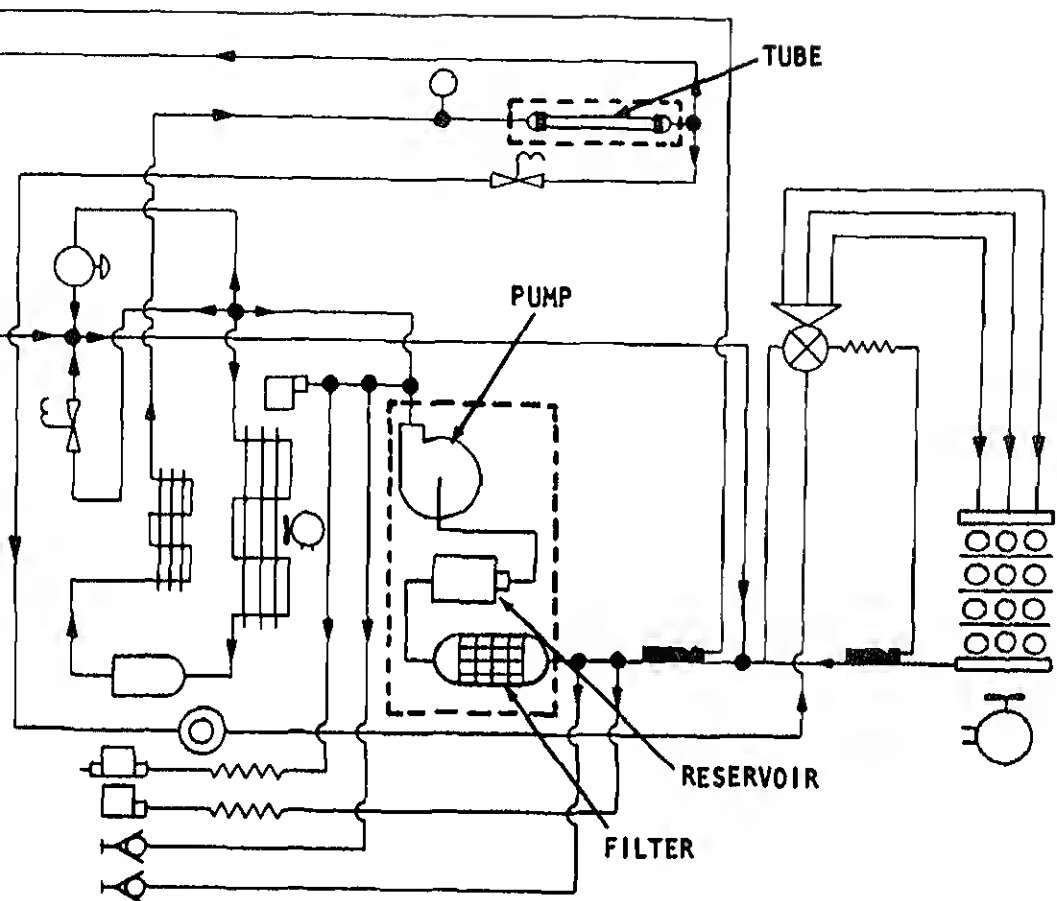

Figure 5-6. Pressure Testing.
b. Set up. Prepare the air conditioner for pretest as shown in figure 5-6 and as directed in the following steps.
(1) Make sure that the fresh air damper is closed, and that the evaporator air intake and discharge grilles are fully open.
(2) Hang an accurate thermometer directly in the evaporator air intake grille to register "dry bulb temperature."
(3) Hang an accurate thermometer directly in the condenser coil guard, making sure that the thermometer is not in direct sunlight, to record "outdoor ambient temperature."